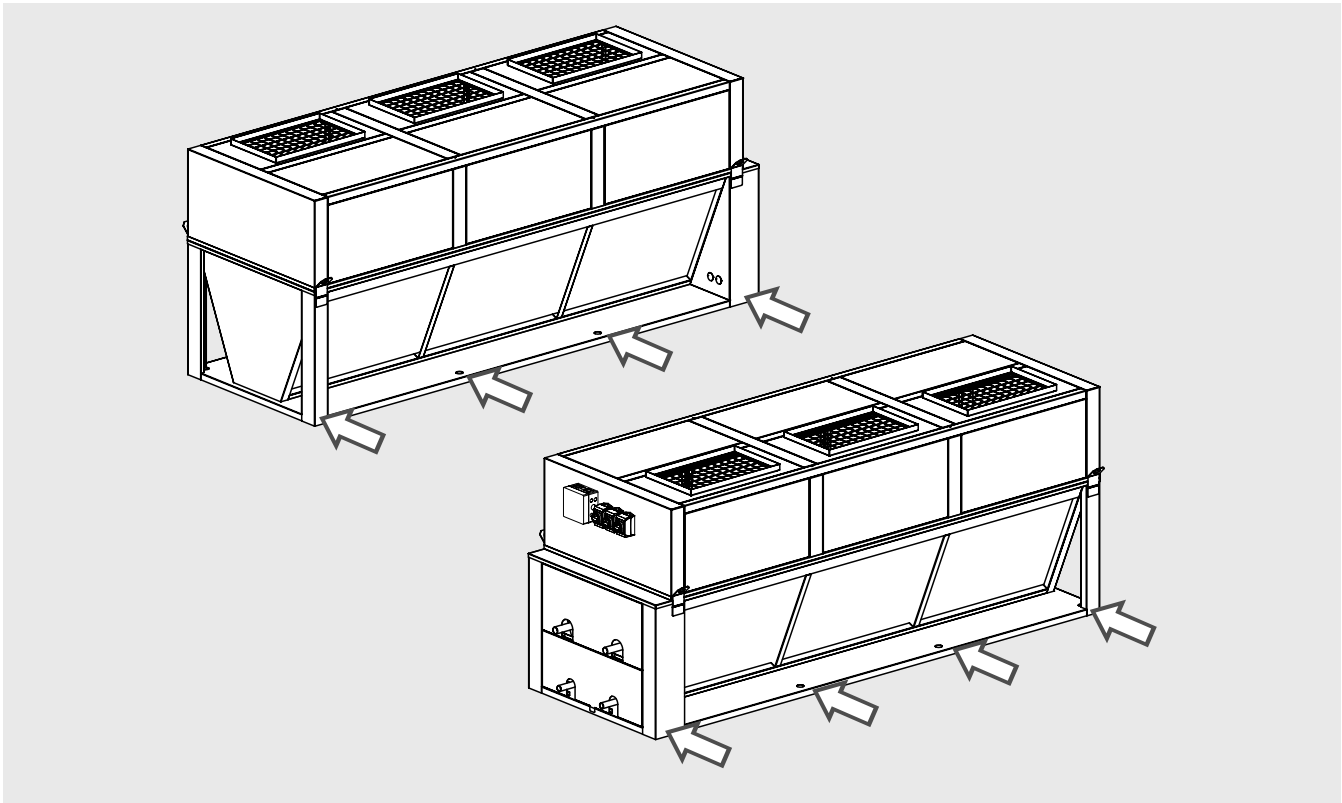

Figure 4
- 6.4 The equipment must be securely anchored to the support base, use all the fixing points (see "Figure 4").